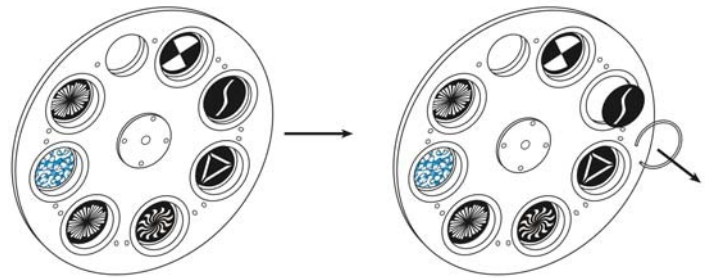

Fig. 13
5. Very carefully take the pinchcock (fig 13 and 14) out of the gobo wheel, but pay attention that the pinchcock does not fall in the device. Then push the gobo out.